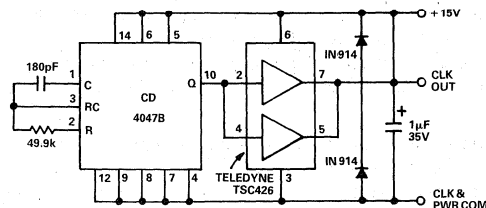

Figure 4. Clock Driver
**AD246 Clock Driver.** The AD246 is a compact, inexpensive clock driver that can be used to obtain the required clock from a single 15V supply. Alternatively, the circuit shown in Figure 4 (essentially an AD246) can be used. In either case, one clock